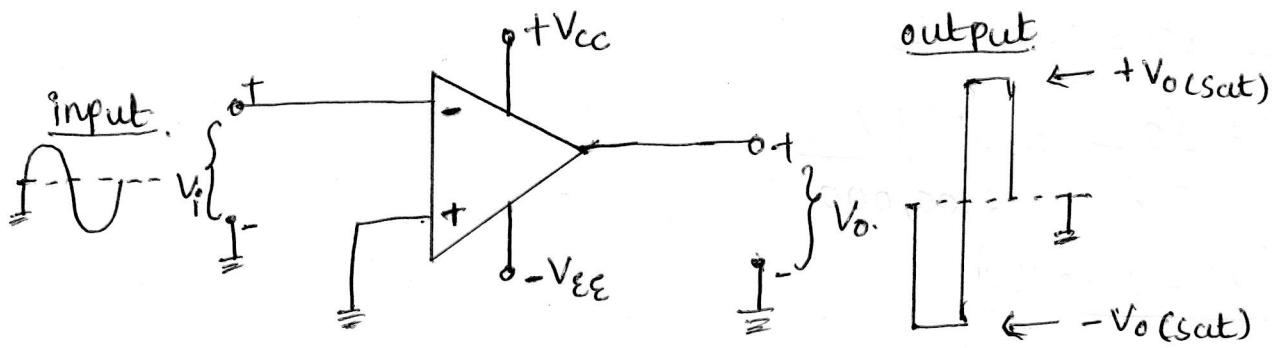

fig 1. (c) Inverting zero-crossing detector & i/p & o/p wave-forms
- If the op-amp non-inverting i/p is grounded & the signal is applied to the inverting input as in fig. 1(c), the output is negative when the i/p is above the ground level & vice versa.